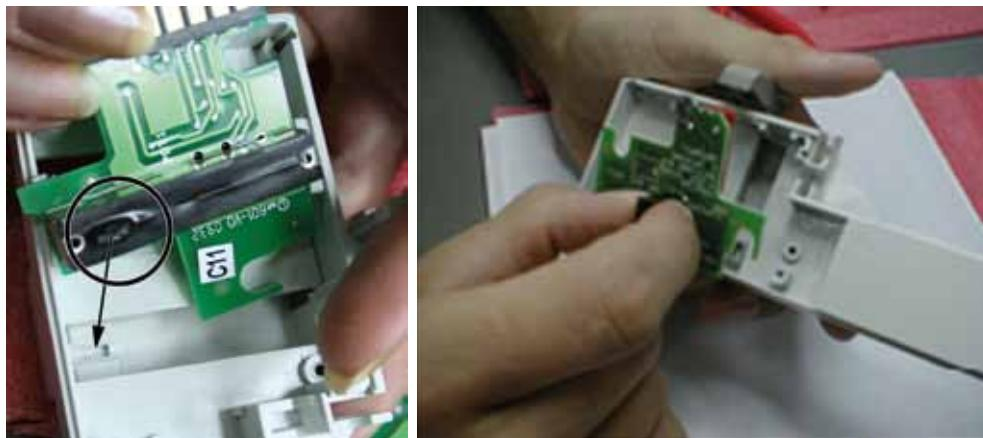

Figure 23. Rear PCB positioning
- a Place the rear PCB in its correct position in the housing, making sure that the protruding boss of the potentiometer matches its socket in the lower part of the case. Test to ensure that the syringe holder works smoothly (Figure 23).